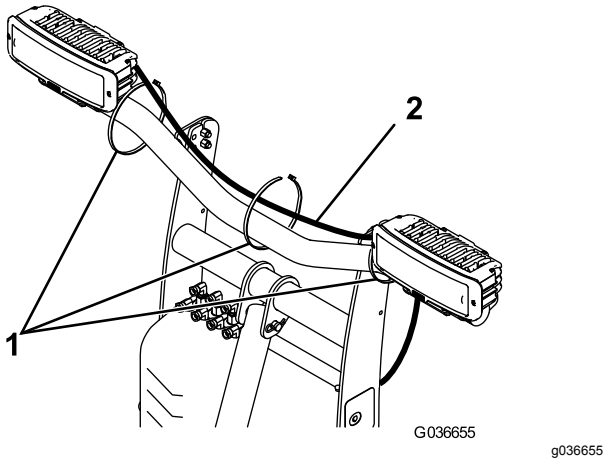

Figure 12
- Insert the headlight connectors on the wire harness to the back of the headlight housing (Figure 12). The short length connects to the left headlight and the long length connects to the right headlight.
- Secure the wire harness to the light bar using 3 cable ties as shown in Figure 12.